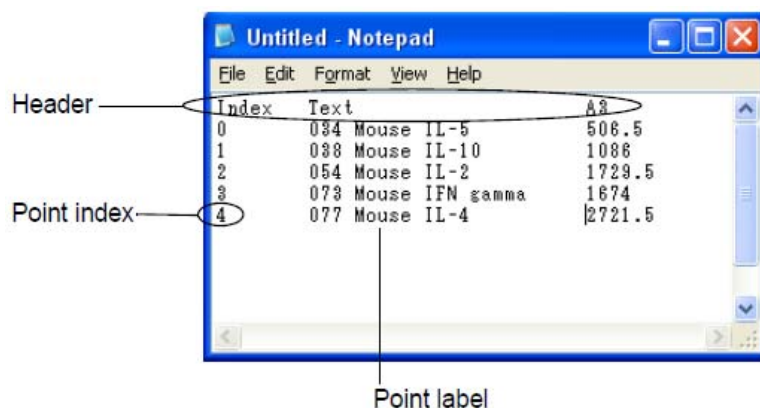

Figure 7.16 Example of data (series) for well A3 saved to a text file
- Text** option saves the data in plain ASCII text format (Figure 7.16).